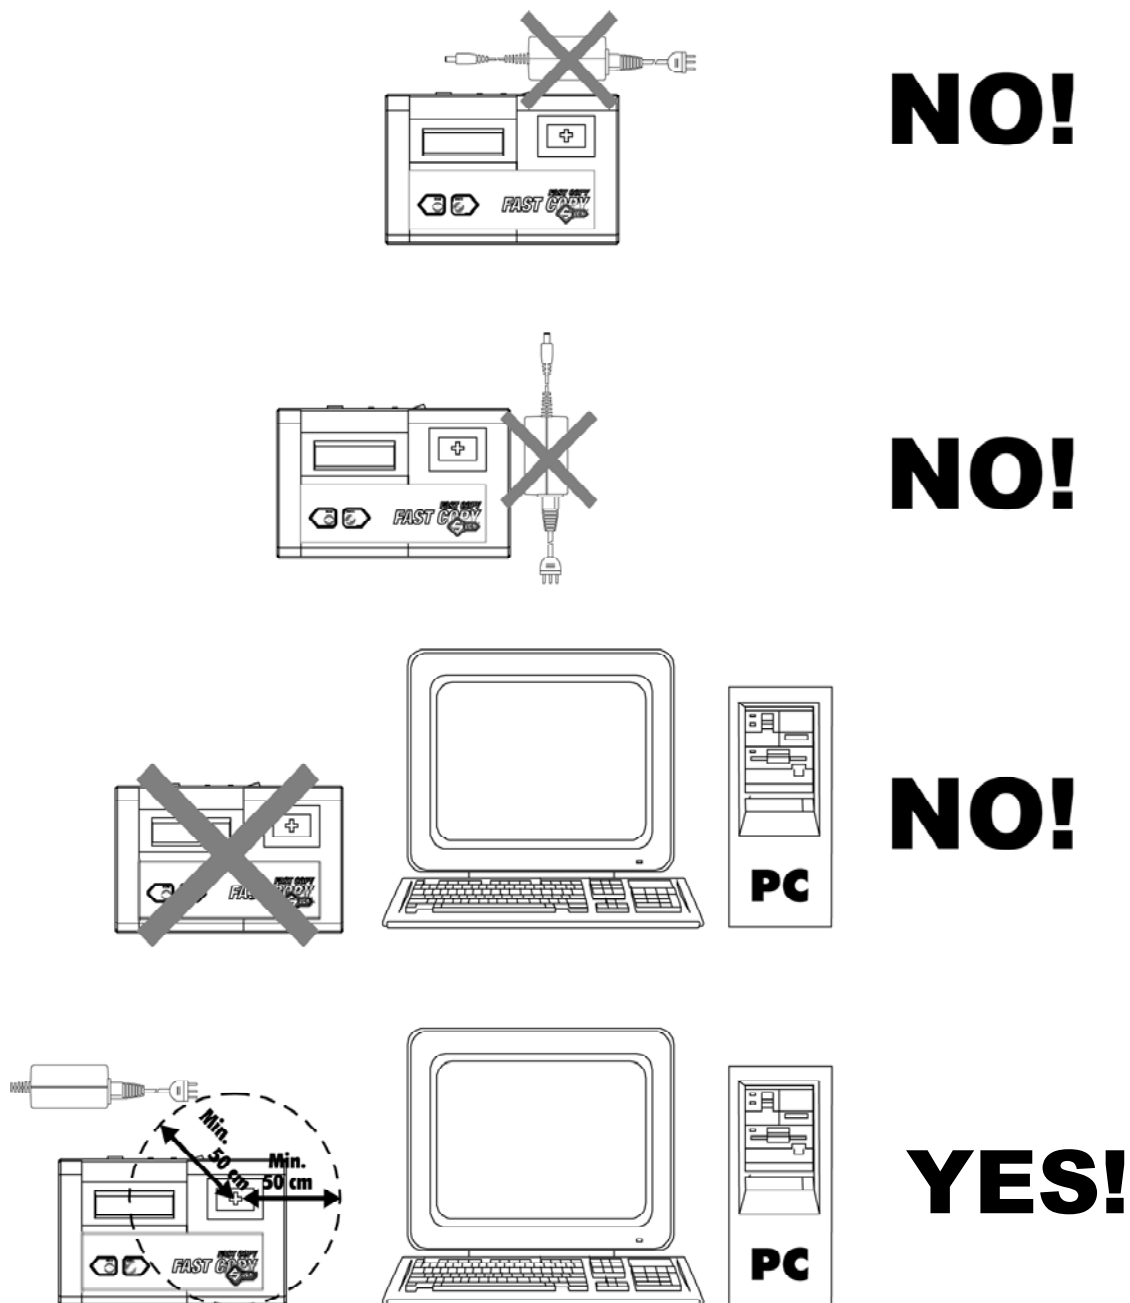

Fig. 5
**ATTENTION:** the universal feeder provided with the machine and any electronic equipment should be placed at least 50 cm from the antenna to avoid their generating interference which could affect reading and/or writing of the transponder (see Fig. 5, page 12).